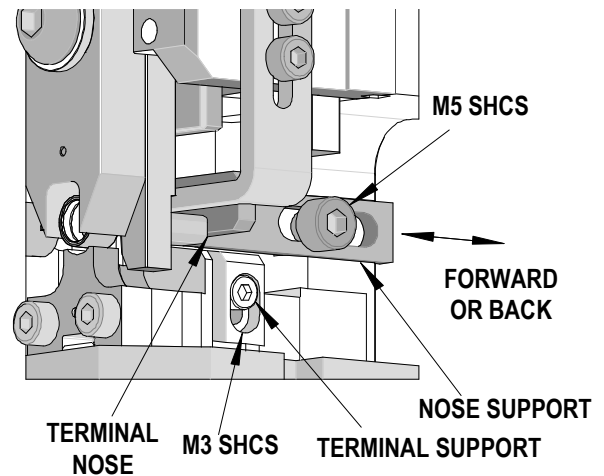

Figure 2-19
3. To adjust the nose support, use a 4mm hex wrench to loosen the M5 SHCS holding the nose support to the applicator frame. Move the support forward or back until it just clears the terminal nose. Retighten the screw. See Figure 2-19.
2. To adjust the terminal support, use a 2.5mm wrench to loosen the M3 SHCS holding it in place. See Figure 2-19.